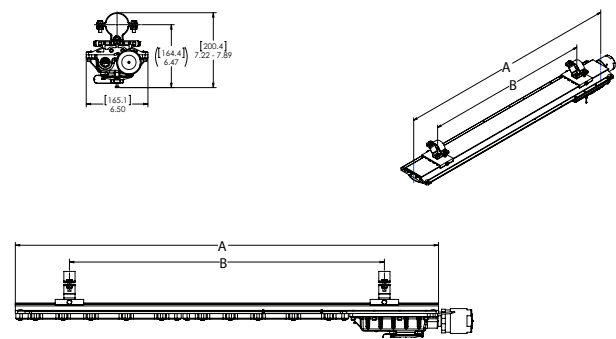
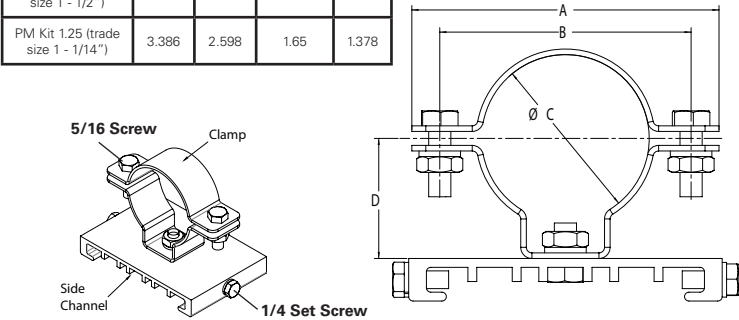

Figure 6. PM KIT – Pole Mount Installation
Figure 7. PM KIT – Pole Mount Details
- 2. Verify that the clamp (see Figure 7) internal diameter is consistent with the diameter of the pole prior to installation. Clamps are available in 1.65" (42mm), 2.00" (51mm) and 2.36" (60mm) sizes.
- 3. Pole mount brackets may be spaced as required; for the four foot, it is required to keep them at least 18" (457mm) apart (see Figure 6) (see table for full mounting range).
- 4. Slide the two (2) pole mount brackets onto the fixture, engaging the flange on the top of the fixture.
- 5. Tighten the two (2) 1/4" set screws on each slide bracket until they bottom (see Figure 7). Torque to 78 in.-lbs. (8.8 N-m).
- 6. Remove the two (2) 5/16" screws, lock washers and nuts on each clamp and remove the upper clamp halves.
- 7. Fixture is now ready for mounting. It is strongly suggested to use two (2) qualified tradespeople to proceed with the final mounting of the fixture. This is recommended to avoid any personal injury or damage to the fixture.
- 9. Install the two (2) upper clamp halves and the 5/16" screws, lock washers and nuts on each clamp.